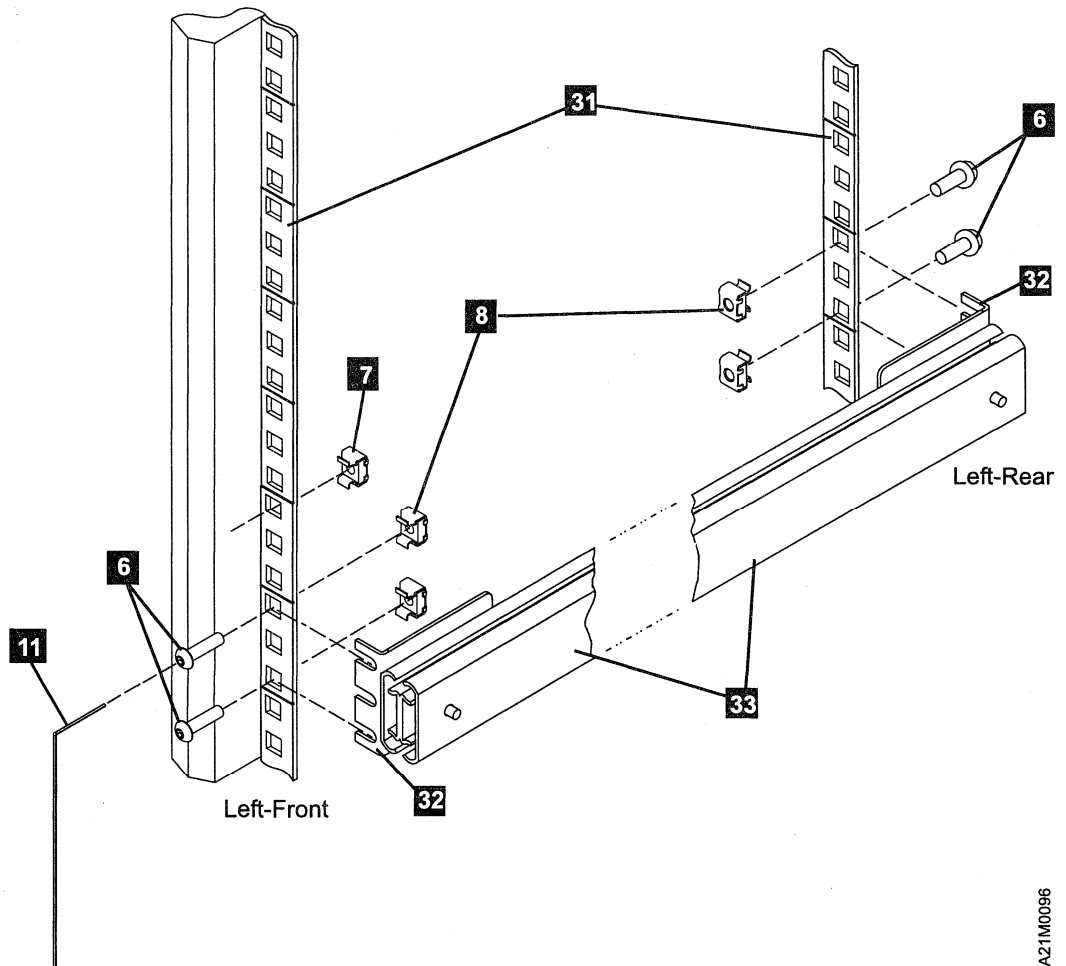
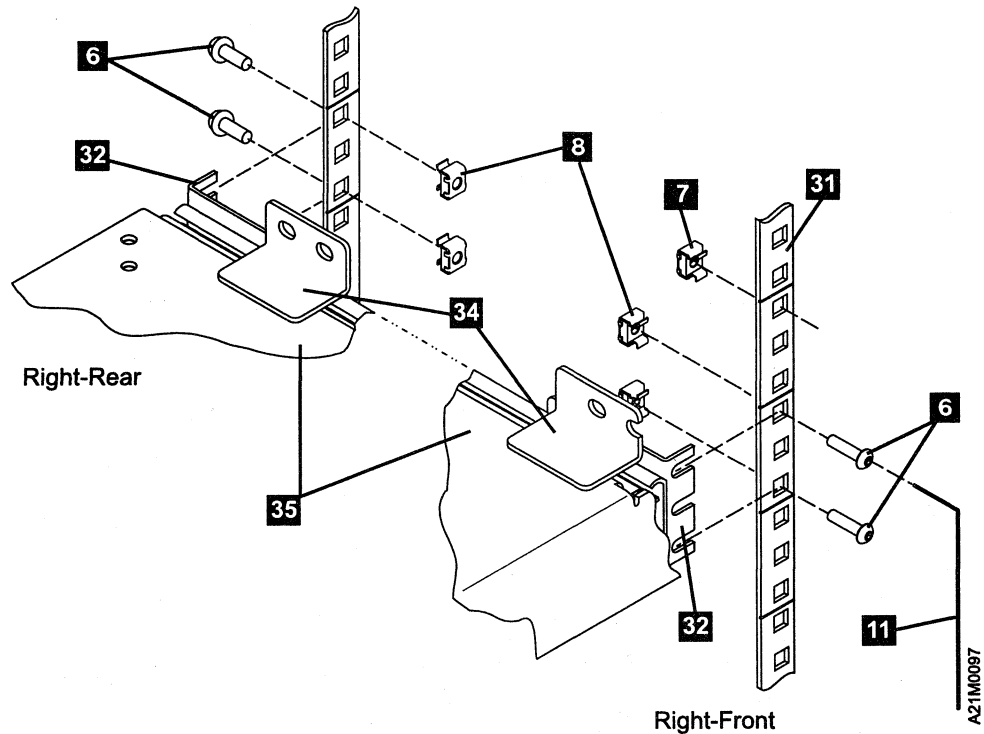

Figure 56. Attaching Left-Hand Slide and Bracket Assembly
Figure 57. Attaching Right-Hand Slide, Bracket, and Tray Assembly
- \_\_\_ Step 2. Determine in which rack location the 3570 will be installed; count six EIA units to accommodate for its height and mark the lower EIA units on the right and left sides in the front and rear of the rack. These EIA units identify the base upon which you will be developing your build. See Figure 56.
- \_\_\_ Step a. See Figure 56 on page 78 to install four M6 caged nuts **8** for the left side slide. Insert and leave the corresponding screws **6** loose.
- \_\_\_ Step b. See Figure 57 on page 80 to install four M6 caged nuts **8** for the right side slide. Insert and leave the corresponding screws **6** loose.
- \_\_\_ Step c. See Figure 56 on page 78 and Figure 57 on page 80 to insert one each M4 caged nuts **7**. These will be used to retain the 3570 from free sliding out of the rack.
- \_\_\_ Step 6. It is suggested that you have another person assist you in steps 6 through 8 on page 80. Reference Figure 56 on page 78 and take the left-hand slide assembly **33** and, ensuring that the slide (the part without mounting brackets **32**) extends toward the front of the rack, install the assembly. It is necessary to lengthen the slide mounting brackets to correctly mount them to the outside of the rack EIA strip. To accomplish this, **do not** loosen the **front** mounting bracket screws. Adjustment must be made with the *rear* mounting bracket screws.
\_\_\_ Step 8. See Figure 57 to install the right-hand slide and tray assembly **35**.
\_\_\_ Step a. Now, look back to Figure 57 on page 80 and securely tighten the front and rear right slide assembly screws **6** ) onto the EIA strip.
- \_\_\_ Step 11. To secure (lock) the 3570 library into the rack, refer to Figure 56 on page 78 and Figure 57 on page 80. Open the front door of the 3570